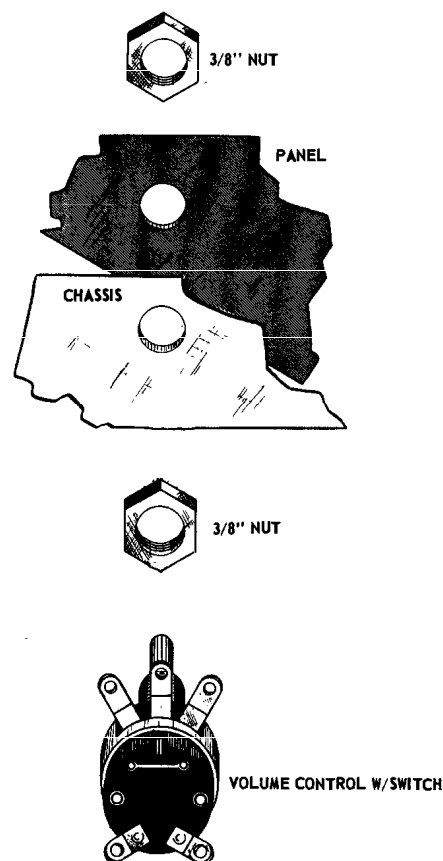

Figure 15.
- (e) See Fig. 15 for complete mounting details.